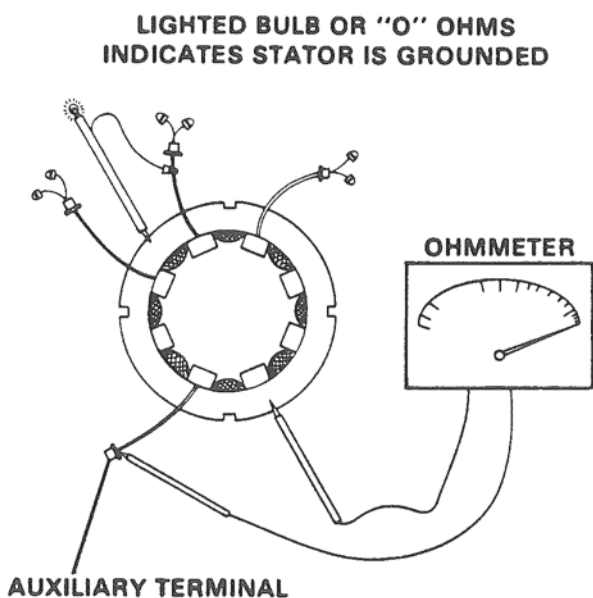

Figure 29. Stator Ground Tests.
B. Connect continuity clip to stator lead and test probe to stator frame or one ohmmeter test probe to stator frame and other to auxiliary terminal lead. Figure 29.